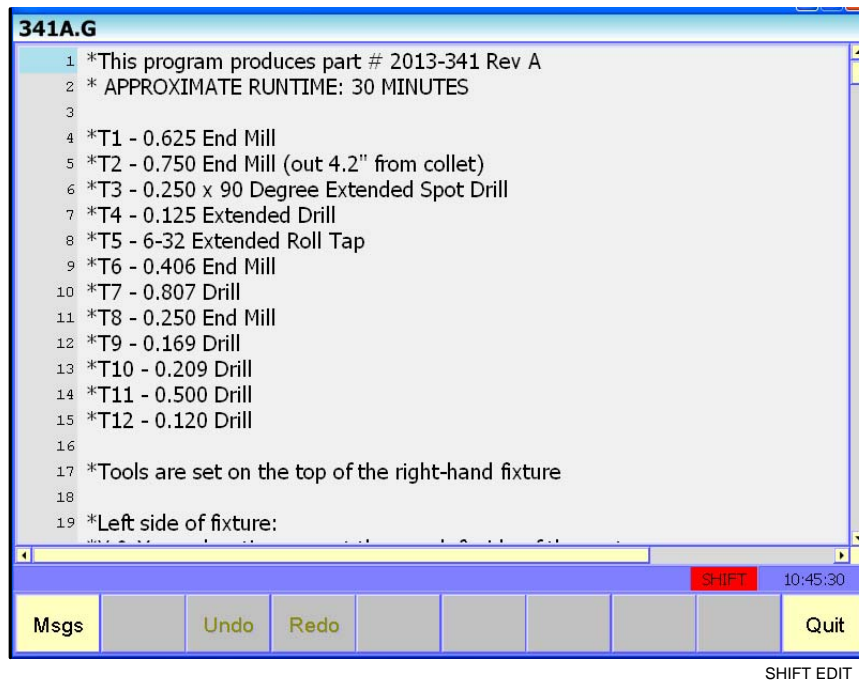

Figure 6-2, Program Editor SHIF Screen
2. Press the **SHIFT** key on the keyboard to display the Manual Shift screen (refer to **Figure 6-2**). Refer to **Table 6-1, Edit Soft Keys**.
You can restore deleted blocks with the Edit **Undo** (**SHIFT + F3**) soft key. Refer to **Figure 6-2, Program Editor SHIFT Screen**. The last block deleted is the first block restored.